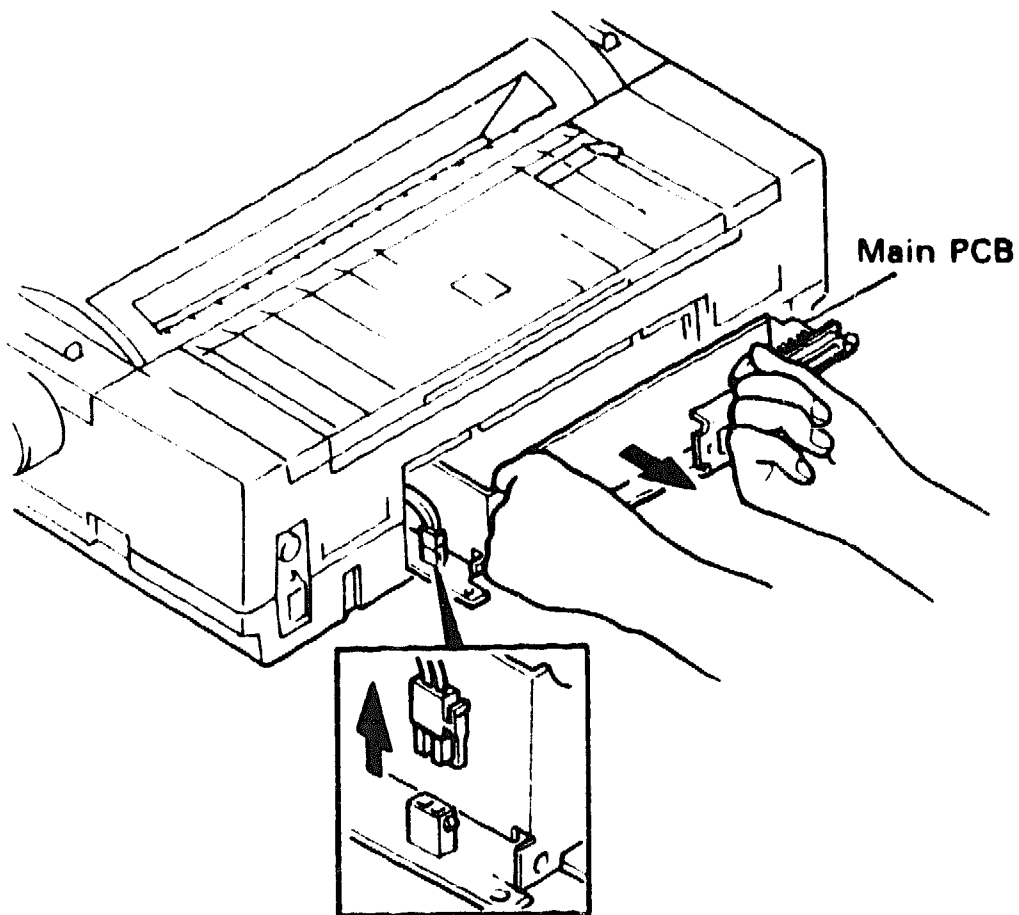

Figure 6-11 Removing the Main PCB
2. Detach the power connector at the left end of the main PCB and pull out the main PCB by putting your finger on the heatsink (Figure 6-11).